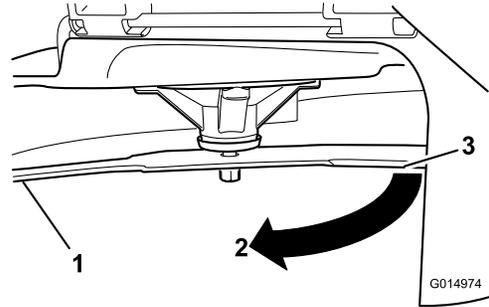

**Figure 53**
2. While wearing thickly padded gloves, or other adequate hand protection, slowly rotate the blade into a position that allows you to measure the distance between the cutting edge and the level surface the machine is on (Figure 53).